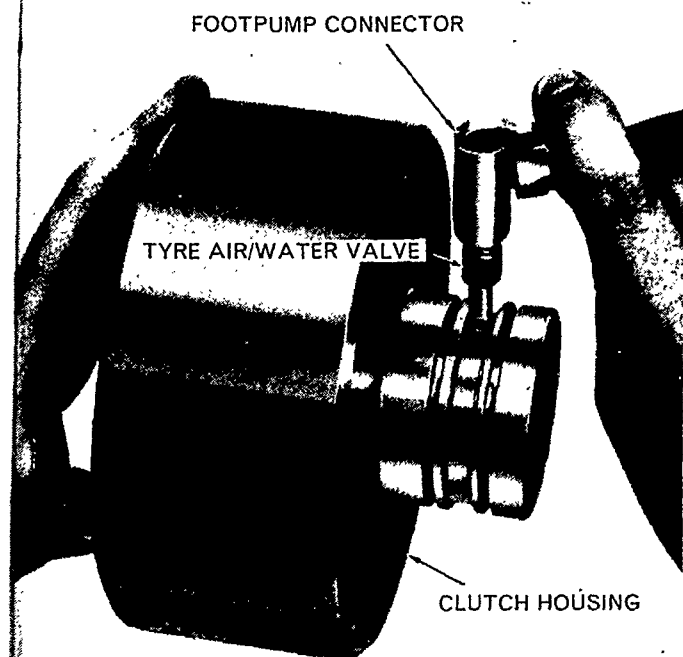

Figure 17
5. Using compressed air, or if a compressed air line is not available a footpump with an air/water tyre valve, to blow through the oil drilling and force out the clutch piston, Figure 17.